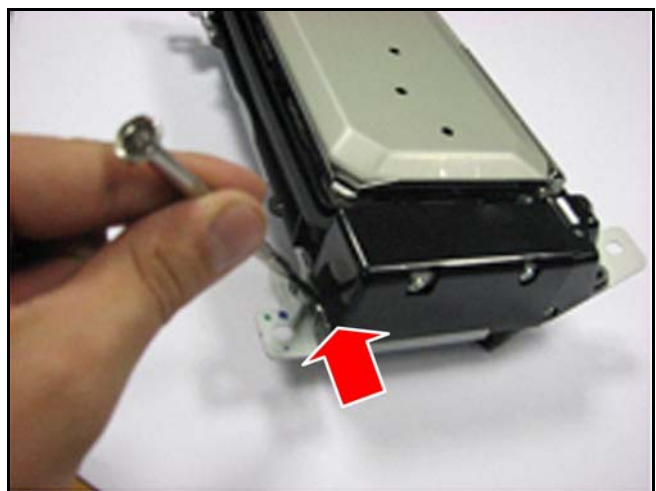

Figure 4
4. Use a small screwdriver to release the locking tab (see Figure 4) and remove the plastic cover.